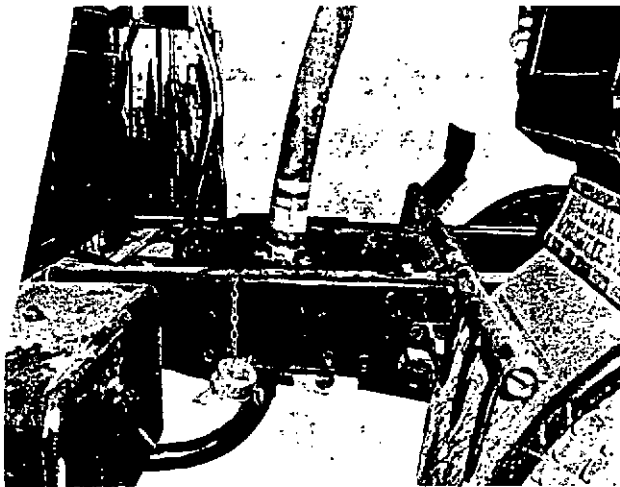

Fig. 2-10, N11832. Compressed-air line connected to trailer
5. Remove dust cap and connect air supply hose, Fig. 2-10.